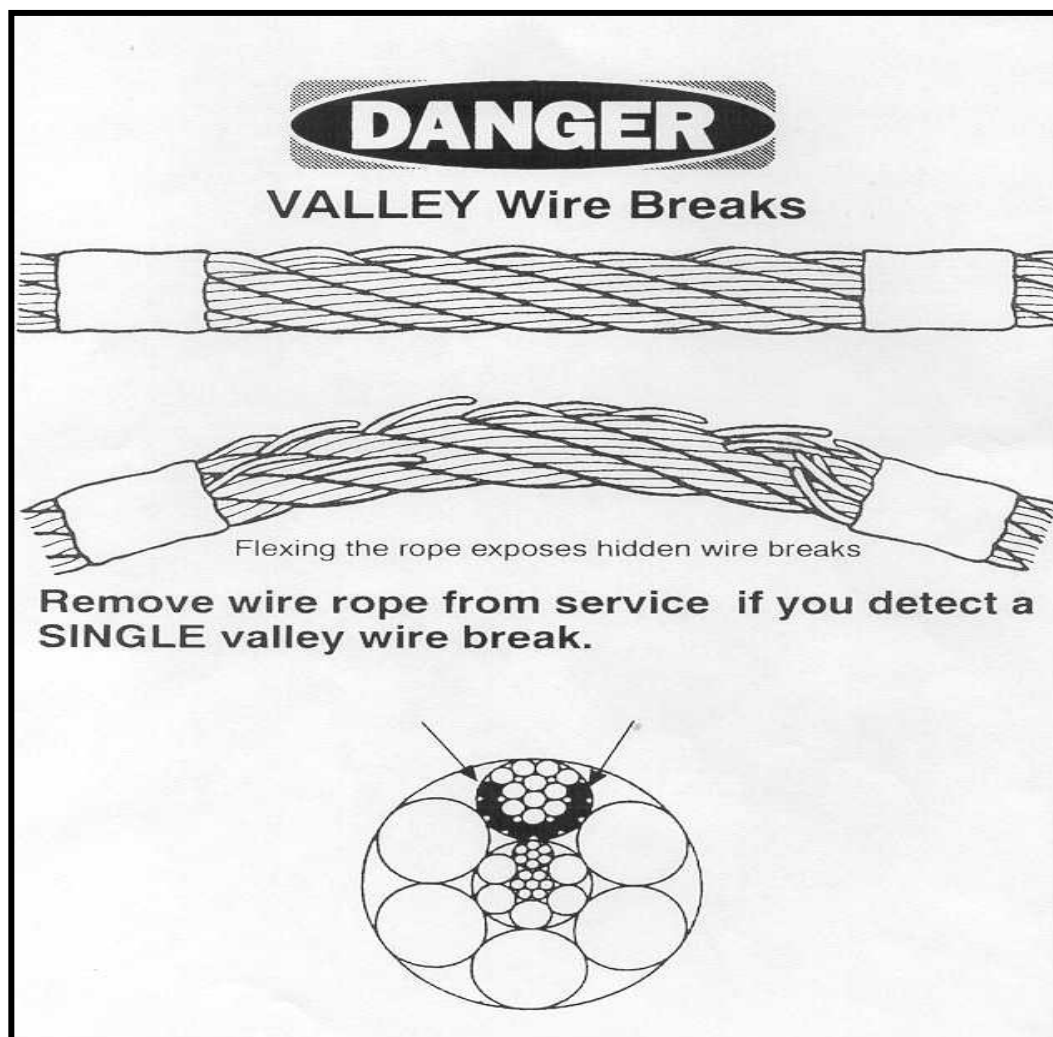

Figure 6-G Valley Breaks
If one (1) valley break is observed, this may indicate internal rope damage requiring close inspection of this section of the rope. See *Figure 6-G*. When two (2) or more valley breaks are found in one (1) lay length the rope should be discarded.